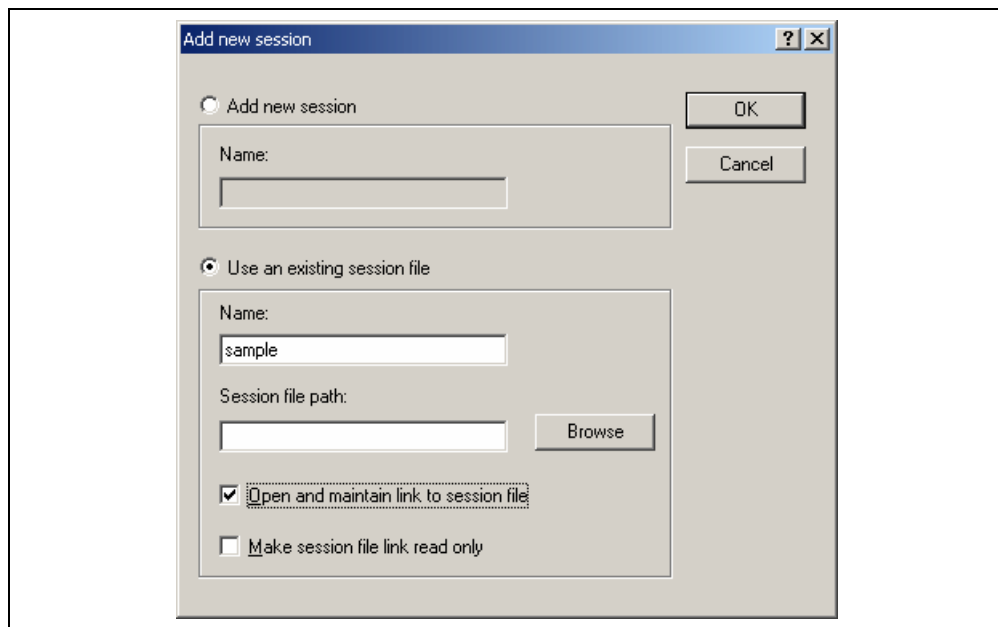

Figure 4.17 [Add new session] Dialog Box
2. Click the [Add...] button to display the [Add new session] dialog box (figure 4.17).